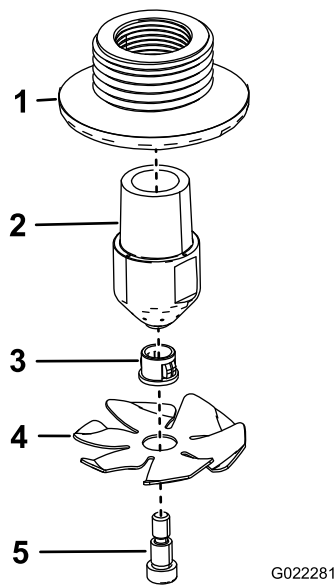

Figure 5
- 1. Assemble the 2 rinse nozzles as shown in Figure 5.